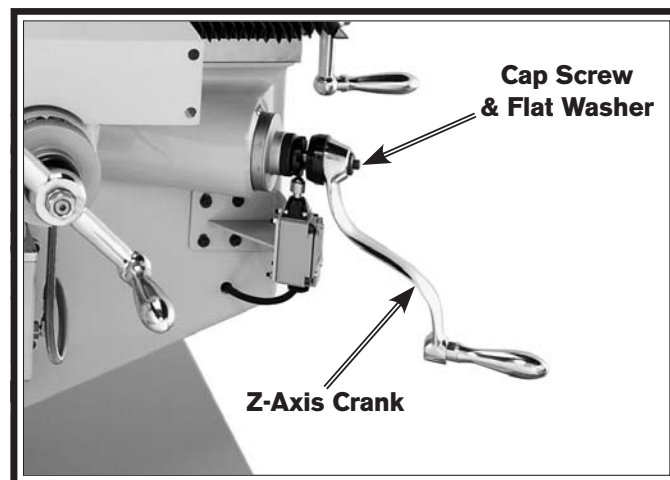

Figure 10. Z-axis crank installed.
8. Remove the cap screw and flat washer from the end of the Z-axis leadscrew, slide the crank on, then reinstall the cap screw and flat washer, as shown in **Figure 10**.